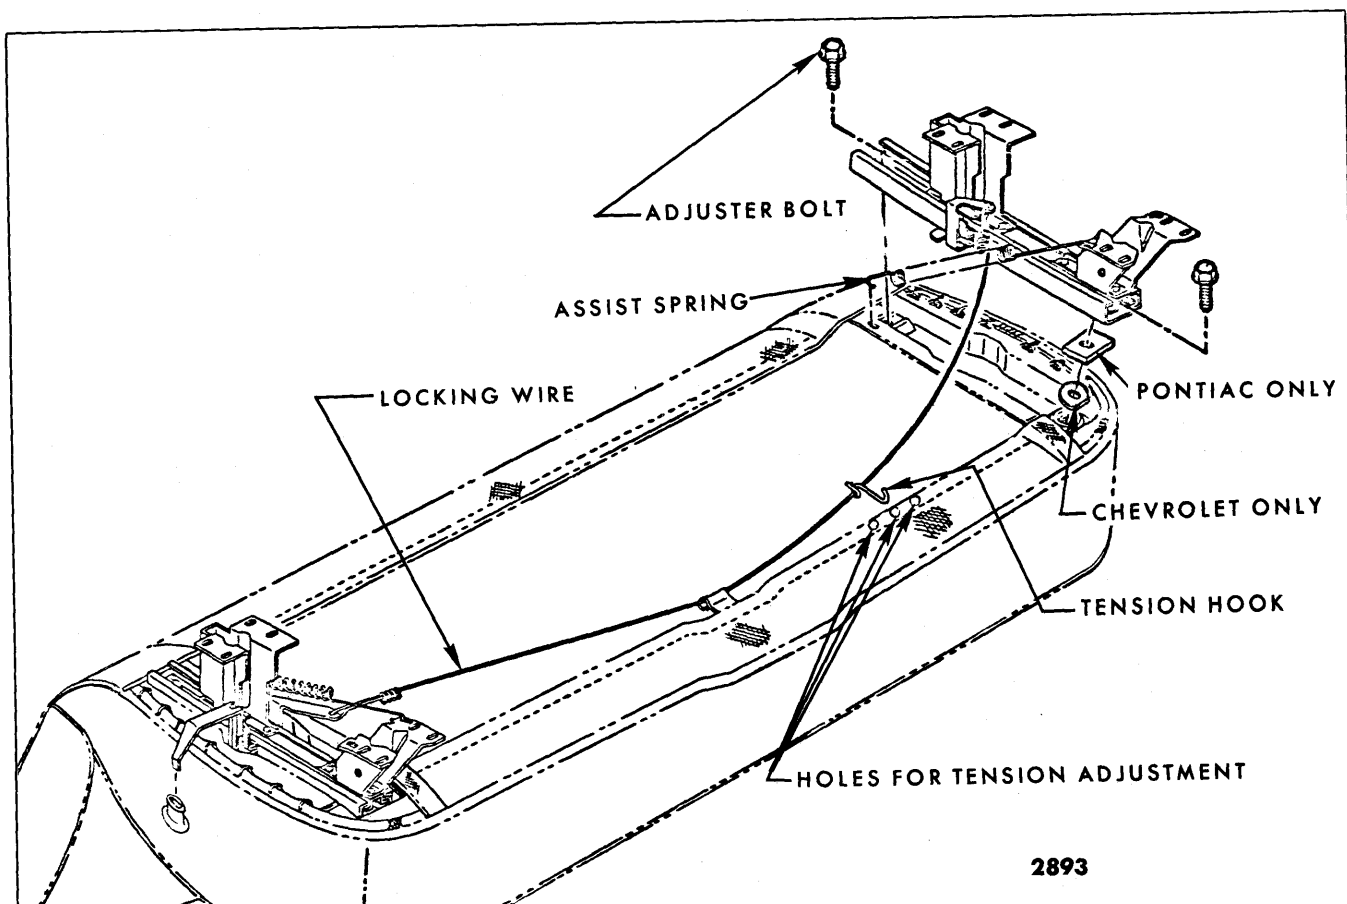

Fig. 15-5—Manual Seat Adjuster Installation - "B & C" Shown, "A, F, X & Z" Typical
2. Remove seat adjuster assist spring from adjuster to be removed (Fig. 15-5).
4. Remove adjuster-to-seat bottom frame front and rear attaching bolts (Fig. 15-5) and remove seat adjuster from seat.
After installing adjusters to seat frame, check operation of adjusters. If adjusters do not lock or unlock satisfactorily when control handle on left adjuster is operated, disengage locking wire retainer from hole in seat bottom frame and engage retainer in one of adjacent holes to obtain proper tension in wire (Fig. 15-5).